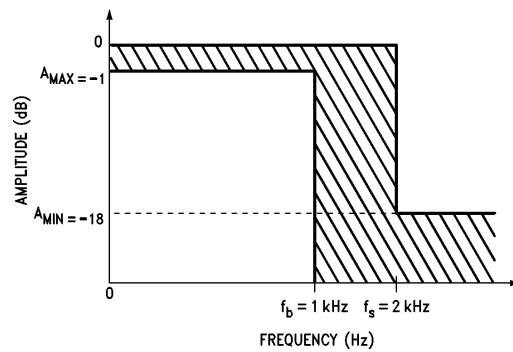

FIGURE 6. Design Example Magnitude Response Specification. The response of the filter design must fall within the shaded area of the specification.
Suppose the amplitude response specification in *Figure 6* is given. Can the LMF40 be used? The order of the Butterworth approximation will have to be determined using (1):
This result also meets the design specification given in *Figure 6* again verifying that a single LMF40 section will be adequate.